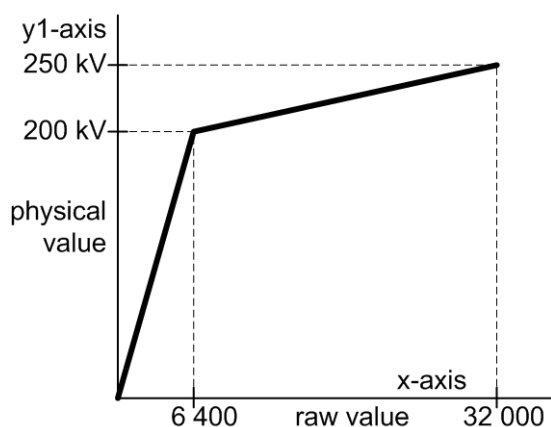

Figure 3-2.30: Non-Linear, Unipolar Characteristic
Please note that a characteristic 'curve' is not a real curve: it can be a straight line or may consist of two or more straight segments as shown hereafter in Figure 3-2.30 .
- Non-linear unipolar (Figure 3-2.30)